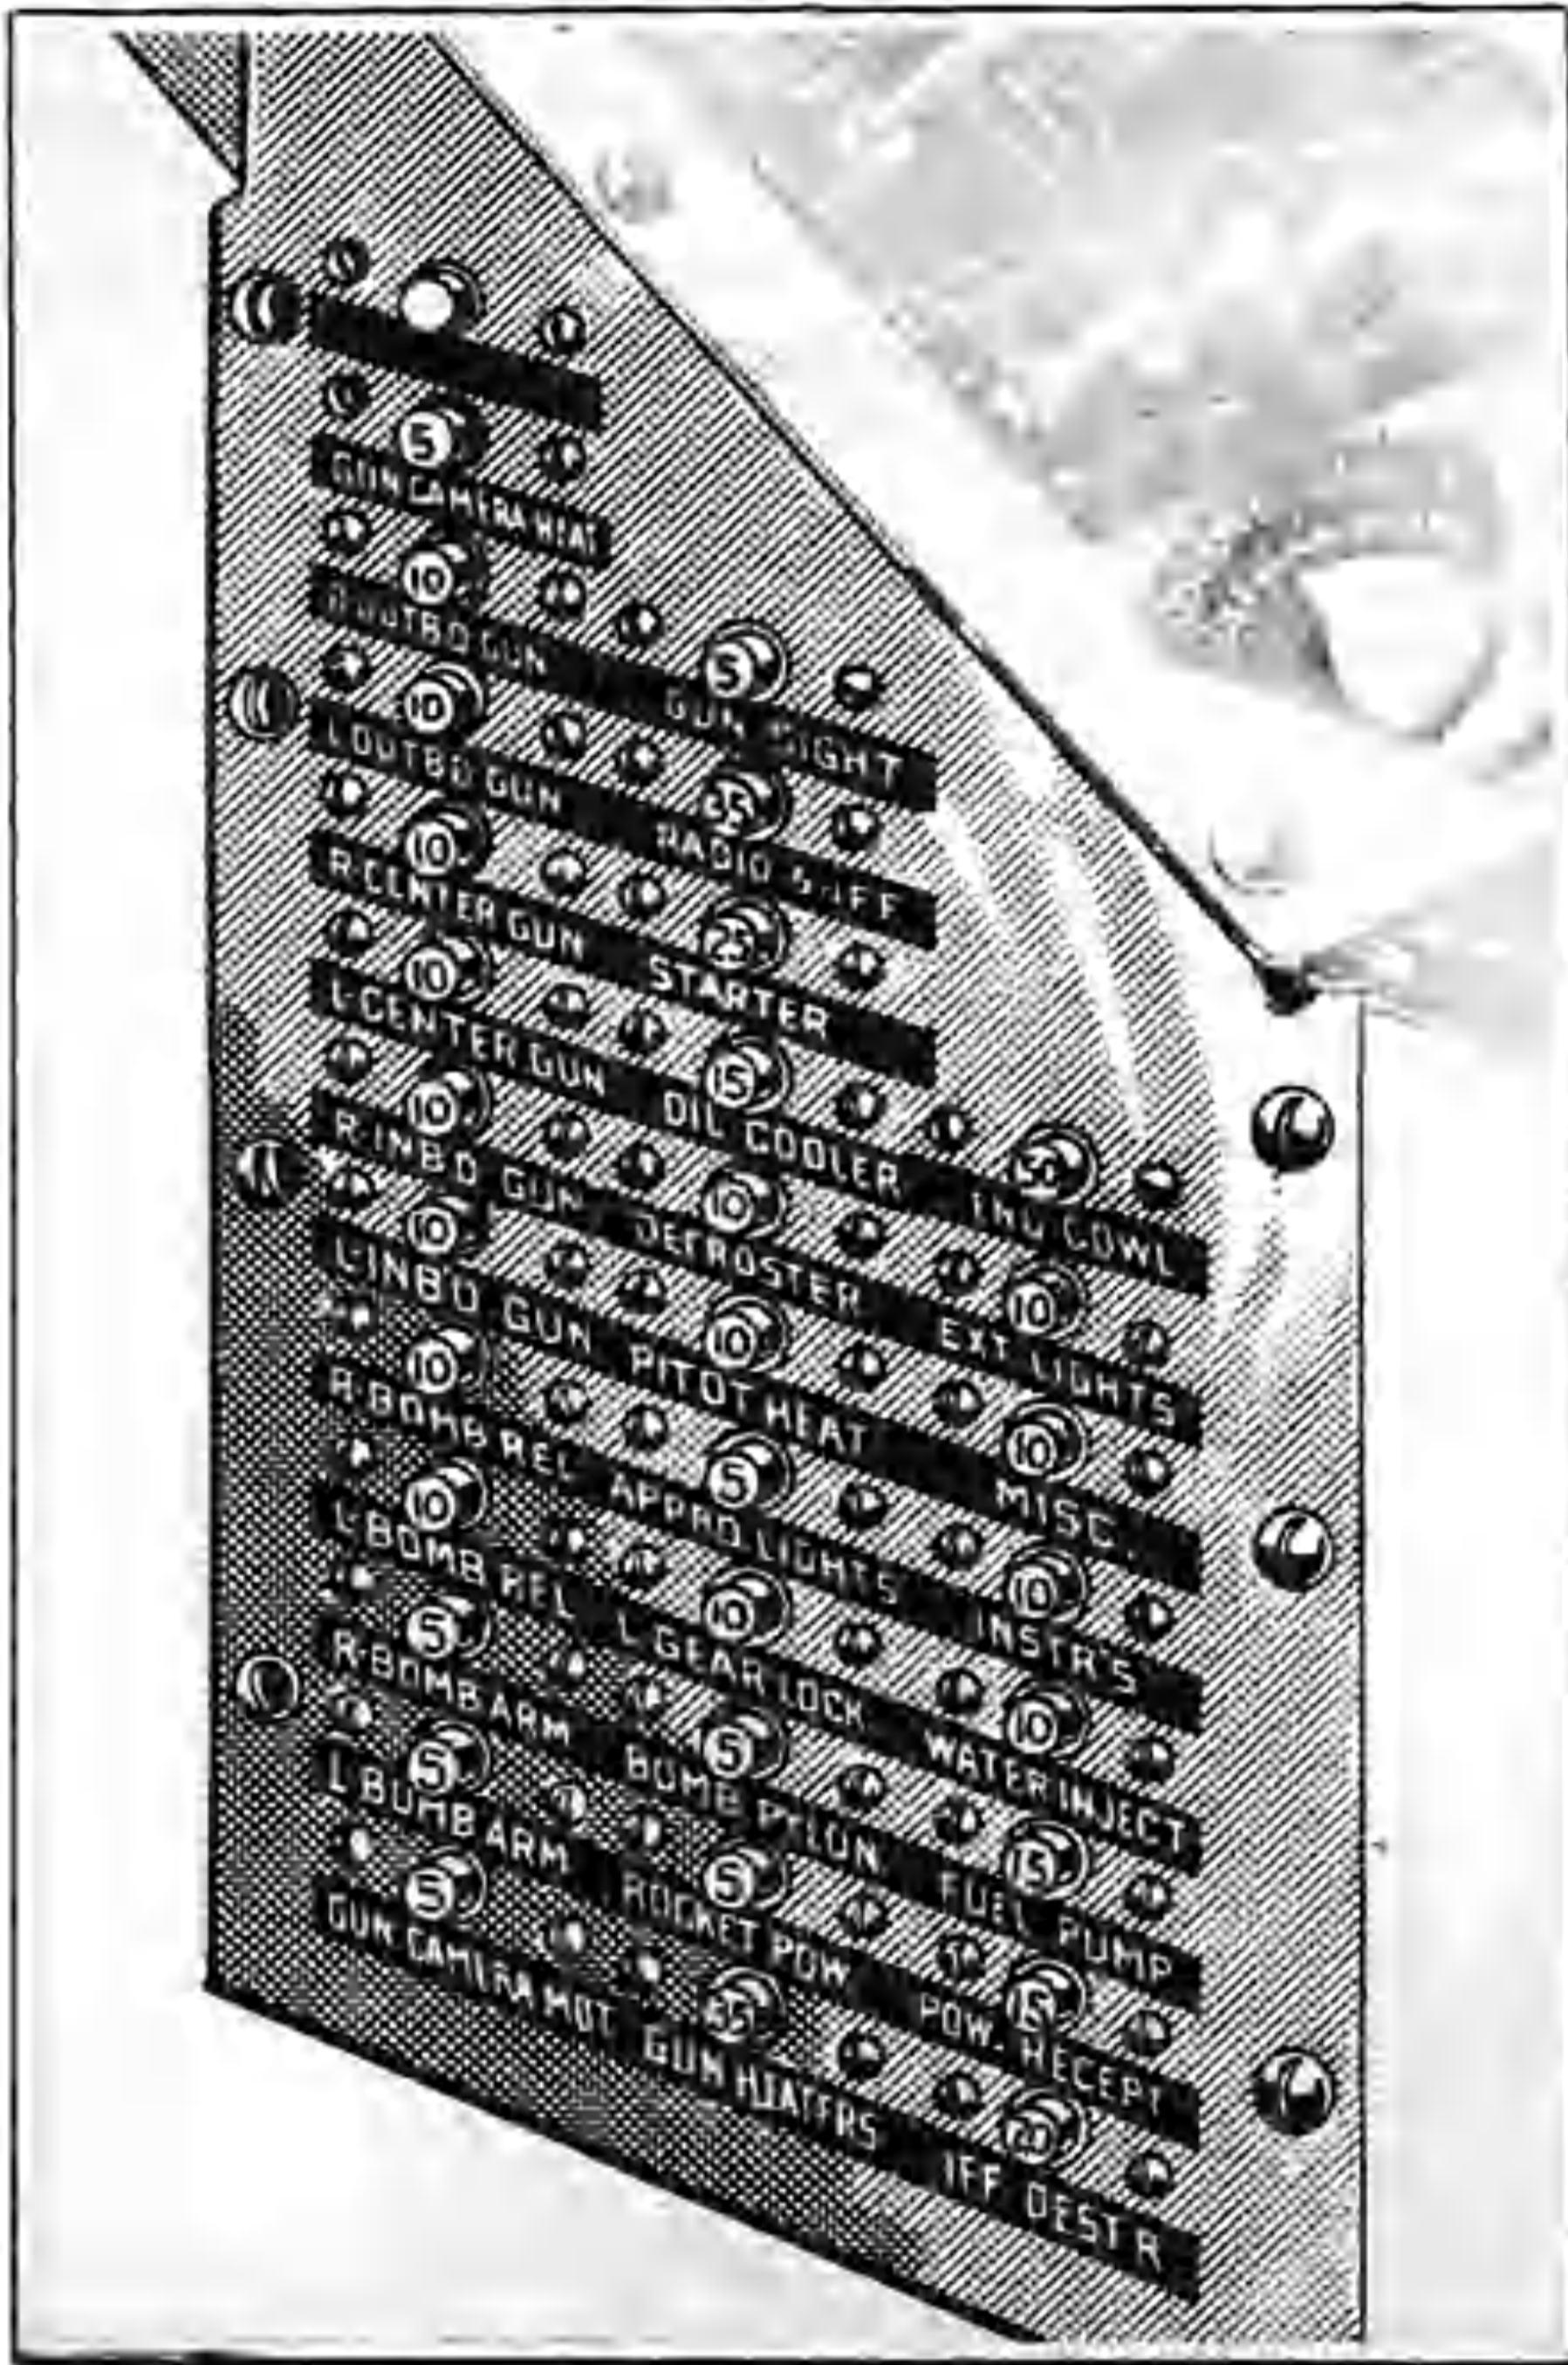

Figure 39 — Electrical Circuit Breaker Panel
- d. Has the gun heater circuit breaker opened? (See figure 39.)
b. Has the circuit breaker for that gun opened? (See figure 39.) If this has happened, reset the breaker by pressing it in. If it opens again, electrical malfunctioning is indicated.